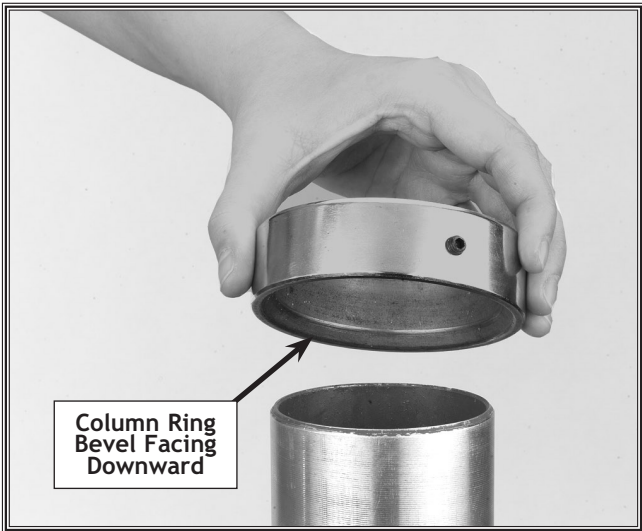

Figure 14. Column ring bevel positioning.
10. Slide the column ring onto the column with the inside bevel in the down position (see **Figure 14**).